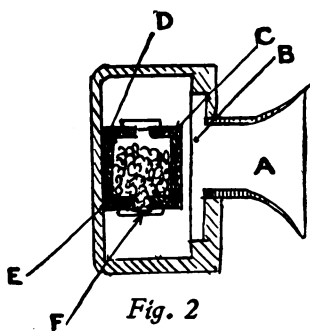

Fig. 2
(Fig. 2), consists of a mouthpiece (A), a diaphragm (B), a carbon cup attached to the back of the latter (C), and a second cup (D) fastened rigidly to the back of the trans-